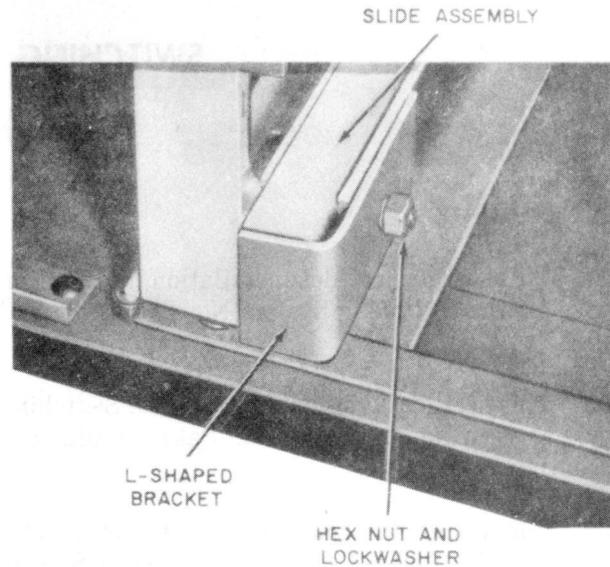
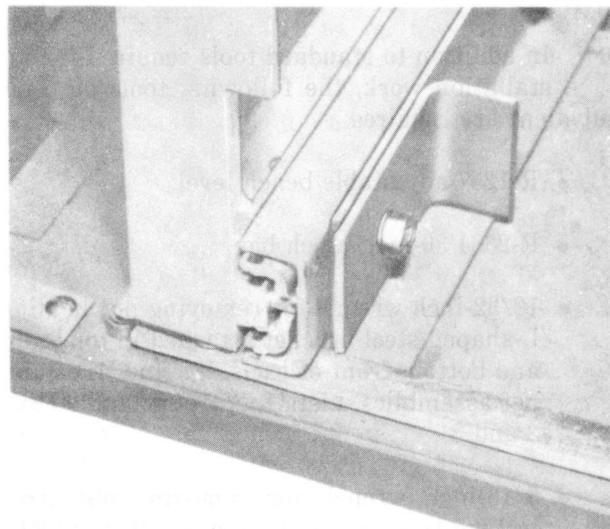

Fig. 2—Bottom Bracket Holding Slide (MD Cabinets)
Fig. 3—Position of Bracket for Future Shipping Use (MD Cabinets)
- 19/32-inch wrench for removing nut holding L-shaped steel bracket attached to top front and bottom front of each slide in (MD) cabinet assemblies, Lists 1, 2, 3, 4, 8, and 9 (Fig. 2 and 3)
- (1) Remove 19/32-inch hex nut and washer holding bracket (Fig. 2).
- (2) Remove bracket.
- (3) Turn bracket over (flange facing right) and remount for future shipping use (Fig. 3).